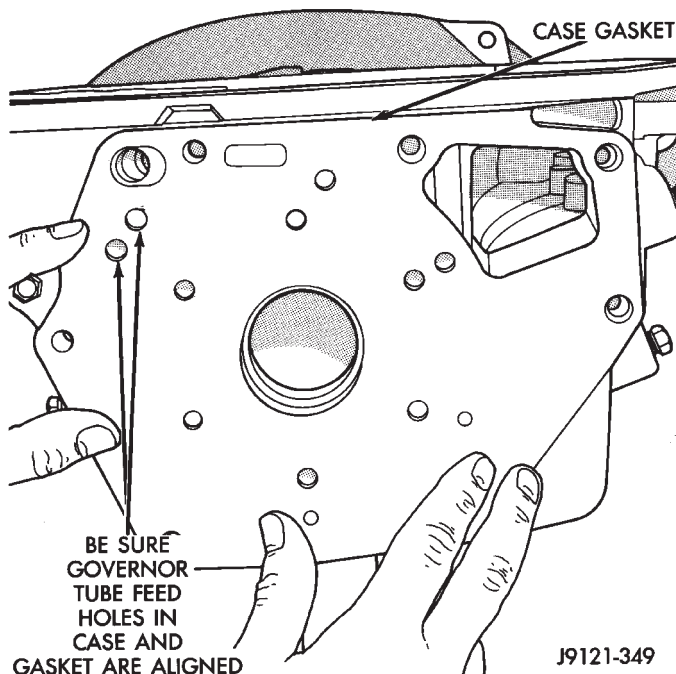

Fig. 148 Installing/Aligning Case Gasket
(13) Install new gasket at rear of transmission case. Use petroleum jelly to hold gasket in place. Be sure to align governor feed holes in gasket with feed passages in case (Fig. 148). Also install gasket before overdrive piston retainer. Center hole in gasket is smaller than retainer and cannot be installed over retainer.
(14) Position overdrive piston retainer on transmission case and align bolt holes in retainer, gasket